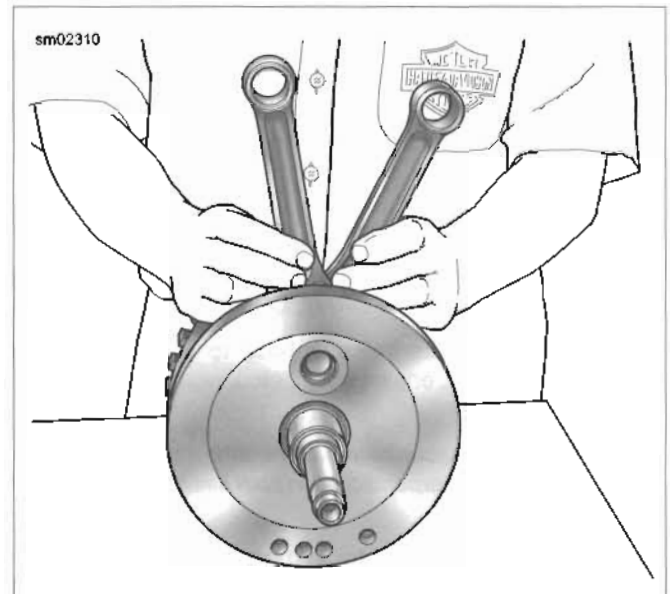

Figure 3-146. Connecting Rod Bearing Clearance
2. Check connecting rod bearing clearance. Orient the assembly as shown in Figure 3-146.